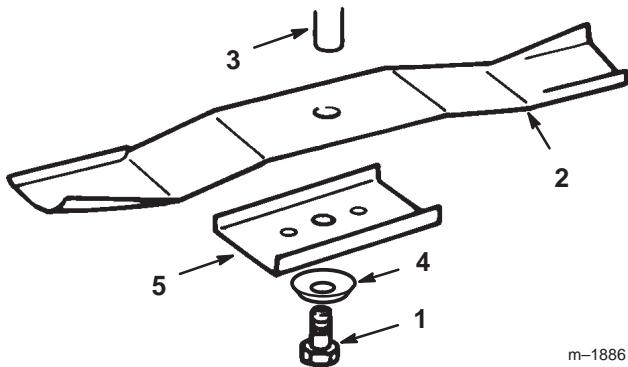

Figure 35
3. Remove the bolt (5/8 in. wrench), curved washer, retainer, and blade (Fig. 35). A block of wood may be wedged between the blade and the mower to lock the blade when you are removing the bolt.
1. Install the blade, blade retainer, curved washer (cupped side toward blade), and the blade bolt (Fig. 35).